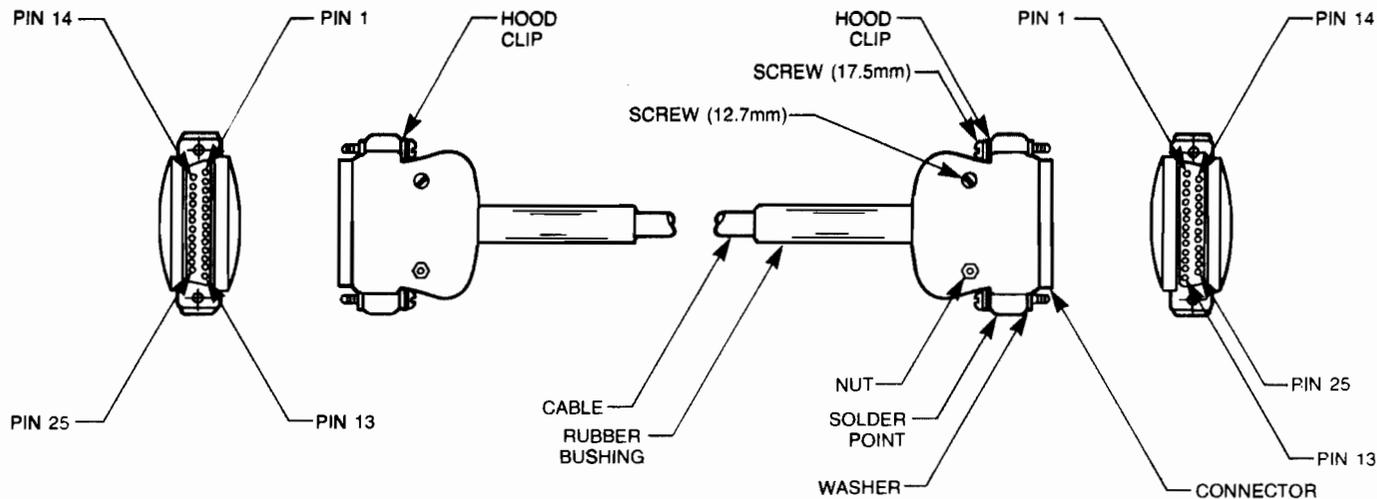

Figure 2-18. 13242 Series Cable Fabrication (Port 2)
3. Insert each wire to be used into a pin, crimp the pin, and insert each pin into the correct hole in the connector (figure 2-18).